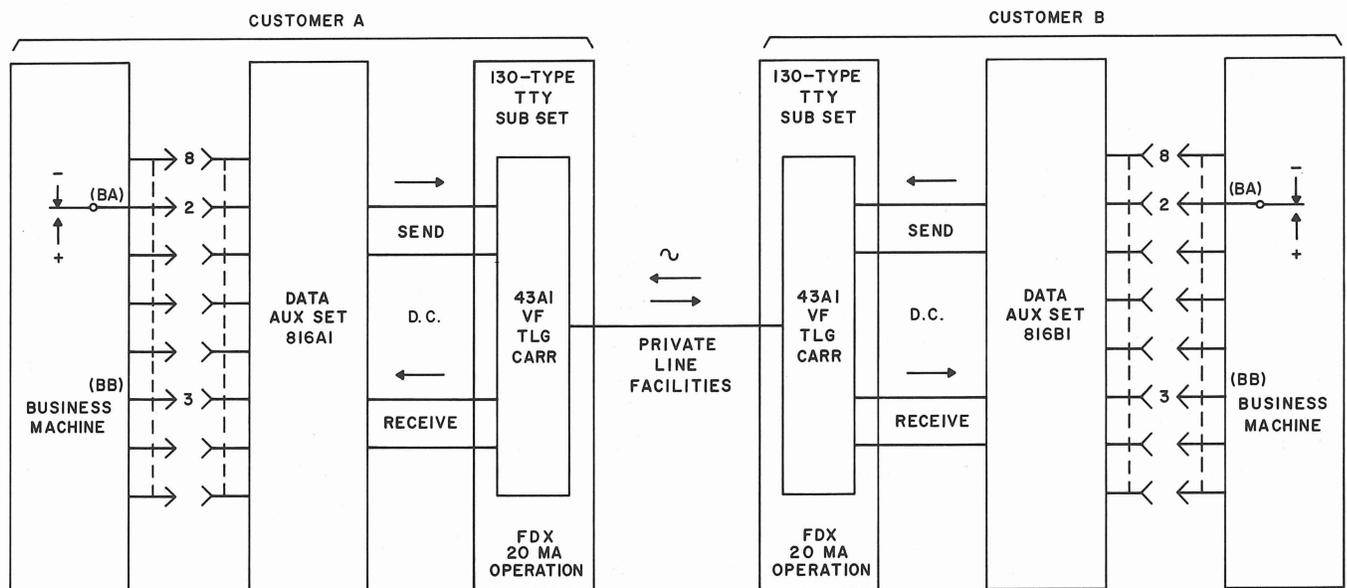

Fig. 5 — System Using DAS 816-Type
3.01 The following description and Fig. 5 will help in understanding the overall operation of a facility that incorporates the use of DAS 816A1 and DAS 816B1.